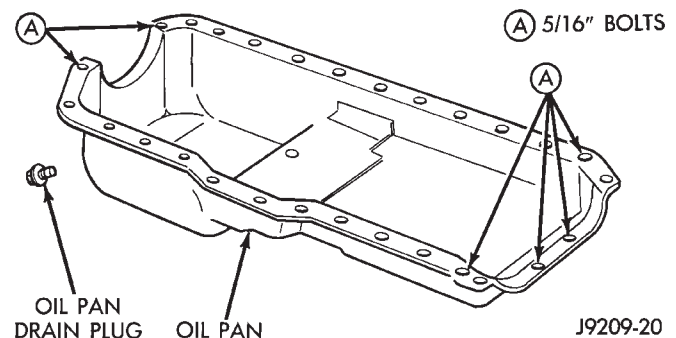

Fig. 51 Position of 5/16 inch Oil Pan Bolts
inch oil pan bolts (Fig. 51). Tighten these bolts to 18 N·m (156 in. lbs.) torque.
- (10) Lower the jack stand and remove the piece of wood.
- (11) Install the engine flywheel and transmission torque converter housing access cover.
- (12) Install the engine starter motor.
- (13) Connect the exhaust pipe to the hanger and to the engine exhaust manifold.
- (14) Install the oil pan drain plug (Fig. 51). Tighten the plug to 34 N·m (25 ft. lbs.) torque.
- (15) Lower the vehicle.
- (16) Connect negative cable to battery.
- (17) Fill the oil pan with engine oil to the specified level.